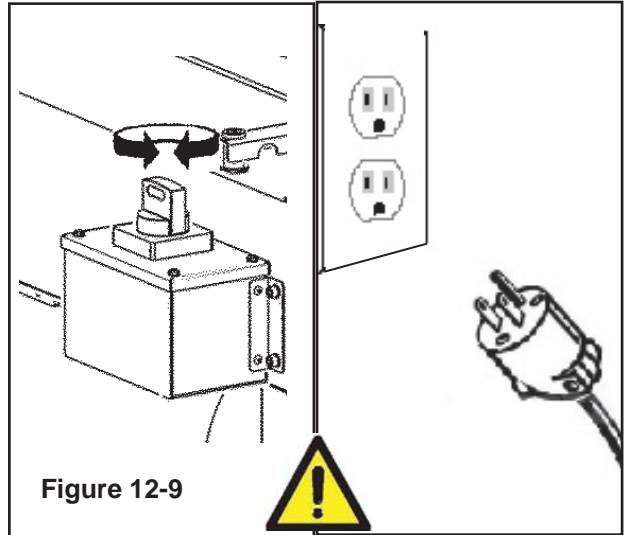

Figure 12-9
12.3 Run Boxes to Inspect Adjustment (Figure 12-9)